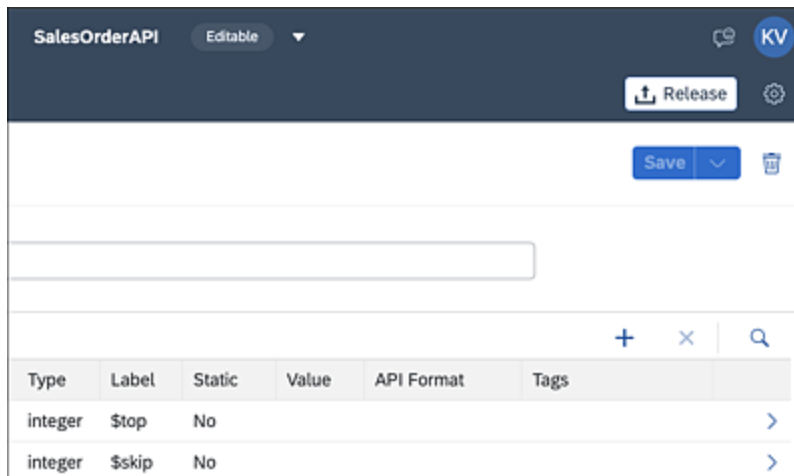

Figure 18.66 Releasing the Project
7. You're now ready to release and publish (see Figure 18.66) the action.